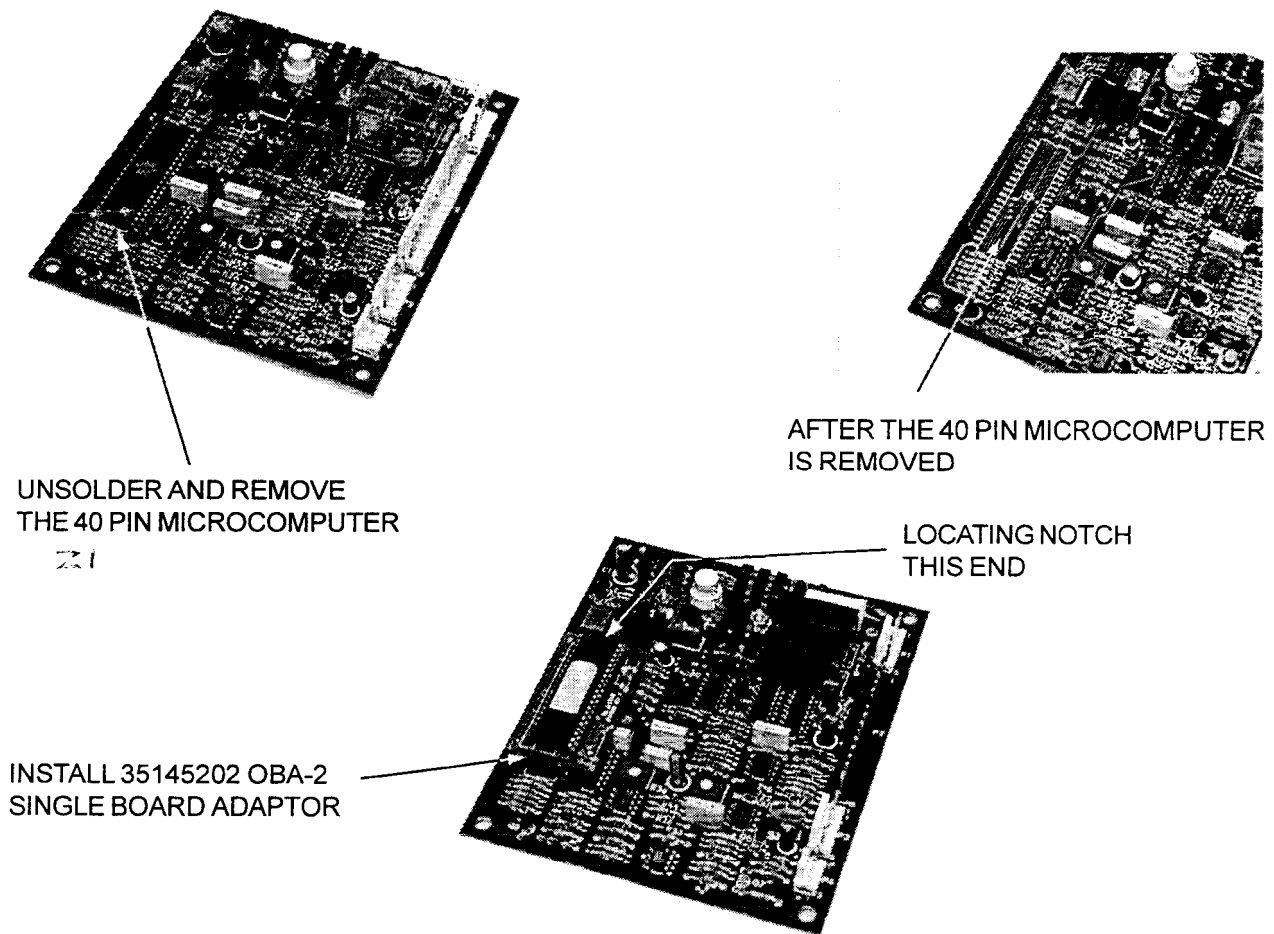

FIGURE 1
3. Locate, unsolder, and remove the 40-pin microcomputer from the board. See *Figure 1*.
4. Install the new #35145202 OBA-2 adaptor board onto the circuit board where the microcomputer was removed. Be sure that the locating notch on the end of the new microcomputer lines up with the locating notch on the printing on the circuit board. See *Figure 1*. Solder the adaptor in place.